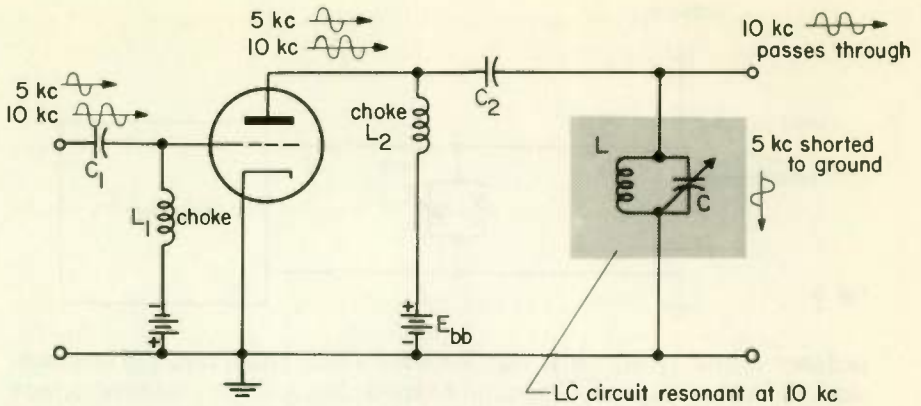

Fig. 4 An unwanted 5-kc signal shorted out by the LC resonant circuit.
3 THE TUNED PLATE CIRCUIT . . . Figure 4 shows an amplifier with which you are already familiar except for the parallel *LC* resonant circuit which has been shunted directly across the output to make the
When analyzing amplifiers, it will help a great deal if you think of the parallel tank circuit as being an open circuit when very near its resonant frequency and a short circuit for all other frequencies. Of course, because of the inductor, a parallel LC circuit is always a short for d-c current. The amplifier of Fig. 4 is said to have a *shunt-fed* or *parallel-fed*, plate circuit, since the LC combination is shunted across the output.
2. In Fig. 4 what would happen if C_2 shorted so that it could pass d-c current? (a) _____
3. The amplifier of Fig. 4 is said to be selective because it amplifies only frequencies very near the (a) _____ frequency of the LC output circuit. If the LC circuit of Problem 1 were used in the amplifier of Fig. 4, a 100-kc input signal would see (b) _____ ohms shunted across the output of the device, while a 1-mc input signal would see (c) _____ kilohms across the output. Which signal is nearly shorted out at the output? (d) _____ .